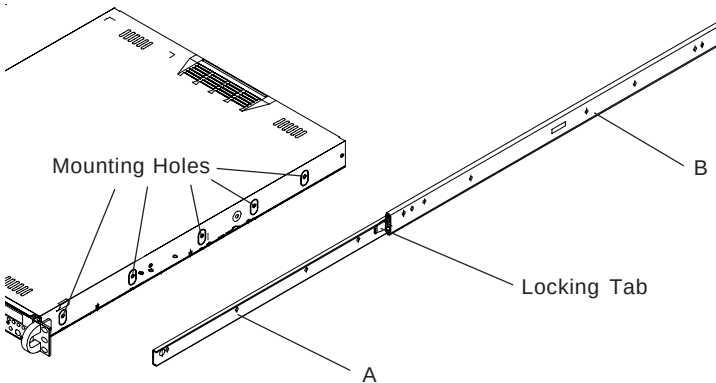

Figure 2-1. Identifying the Sections of the Rack Rails
You should have received two rack rail assemblies with the SuperServer 6012P-8. Each of these assemblies consist of three sections: an inner fixed chassis rail that secures to the 6012P-8 (A) and an outer fixed rack rail that secures directly to the rack itself (B). A sliding rail guide sandwiched between the two should remain attached to the fixed rack rail. (See Figure 2-1.) The A and B rails must be detached from each other to install.